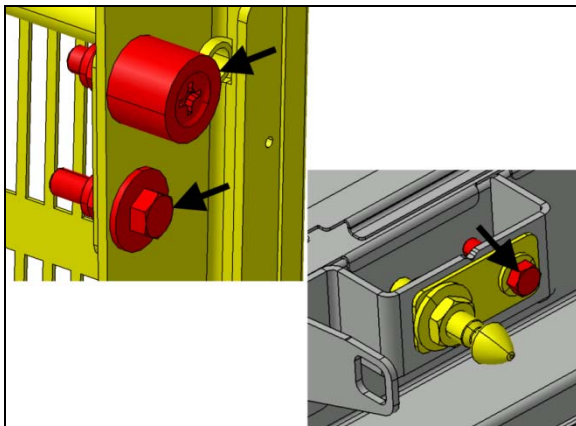

FIGURE 56
- Open the door and perform a final tightening to the items indicated with arrows (FIGURE 56).